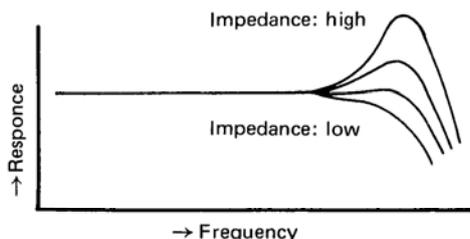
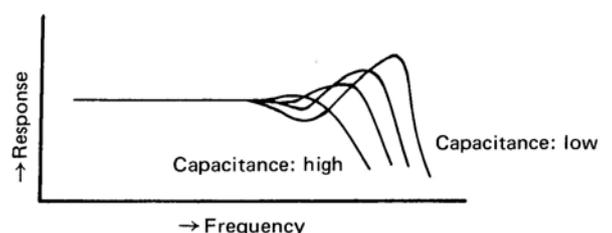

Fig. 12
Fig. 13
Typical moving magnet (MM) cartridges have resonance peaks at high frequencies, as shown in Fig. 12. However, the height of the peaks can be varied by changing the load resistance (ohms). The peaks increase as the resistance is increased. In addition, the resonance frequency (center of the peak frequency) can be varied by changing the load capacitance (pF), as shown in Fig. 13. If the capacitance is increased, then the resonance frequency is lowered and the peaks are increased. To provide the best characteristics of your cartridge, set the "pF" and "ohms" switches, following the instructions outlined below. By combining these two knobs, you will be able to obtain a variety of different high-frequency responses.
The example in Fig. 13 shows typical high-end frequency curves. In a case like this, adjust both knobs for the desired response while listening to a record. With ordinary MM cartridges, the values are 50 kilohms and 100pF - 200pF.